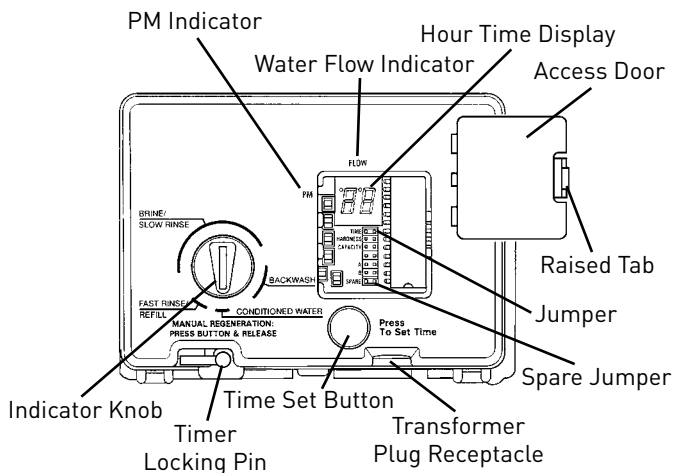
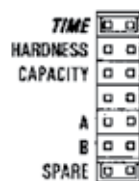

Figure 11
Figure 12
- Set days of regeneration on skipper wheel (Figure 11).
NOTE: The Timer Locking Pin should always be horizontal (Figure 11) during operation.
Open the access door by pushing the raised tab on the door toward the left while pulling the tab out (Figure 12).
NOTE: The Timer Locking Pin should always be horizontal (Figure 12) during operation.
When abnormally high water usage exhausts your water conditioner's capacity ahead of schedule, an extra regeneration can be achieved. Depress the indicator knob on the 440i (Figure 11) with a wide-blade screwdriver and turn COUNTERCLOCKWISE to START to initiate a regeneration. For the 460i, simply depress the indicator knob (Figure 12). It will take a few minutes for regeneration to start. A normal regeneration will take approximately two hours.